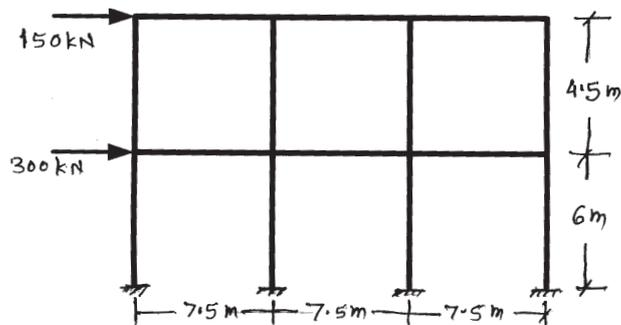

Figure 12
- b) Determine the approximate values of moments, shear and axial force in each member of frame shown in Figure 12. Use Cantilever Method. Assume columns of same cross section. [12]